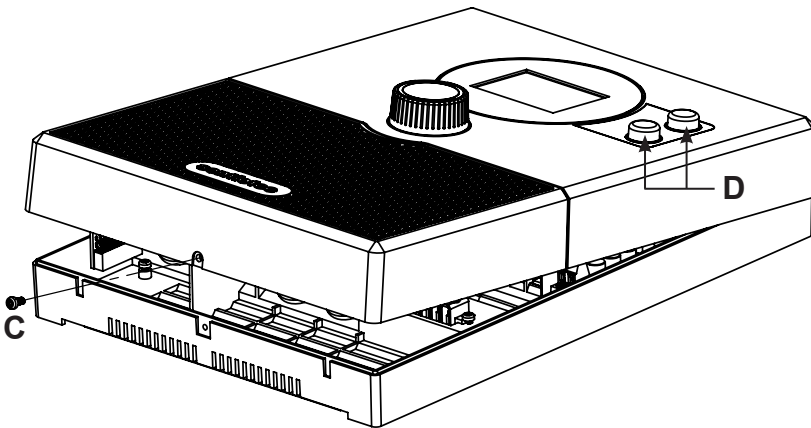

Fig. 2 Remove housing cover
2. Use a screwdriver to remove housing screw **C** and lift off the housing cover from the underside (see **Fig. 2**).